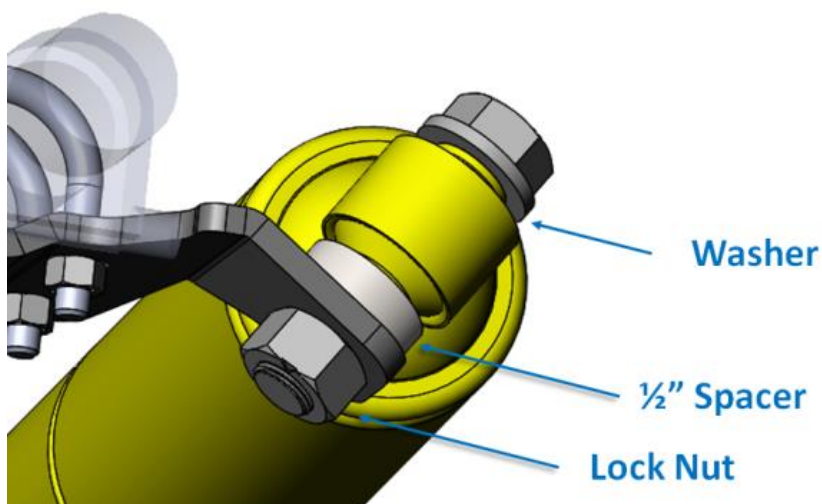

Figure 5
7. Hang the large end of the SAFE T PLUS® from USI-1014 using the 3/4"-16 x 3-1/2" bolt, 1/2" spacer, washer, and lock nut (Figure 5)